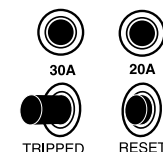

FIGURE 14
The receptacle circuit breakers protect the receptacles. Overloading the generator will trip the thermal circuit breaker. If an individual thermal breaker selector switch (C) moves to the tripped position as shown in figure 14, disconnect the electrical load from the receptacle. Let the circuit breaker cool down. Push the individual thermal breaker selector switch (C) to reset.